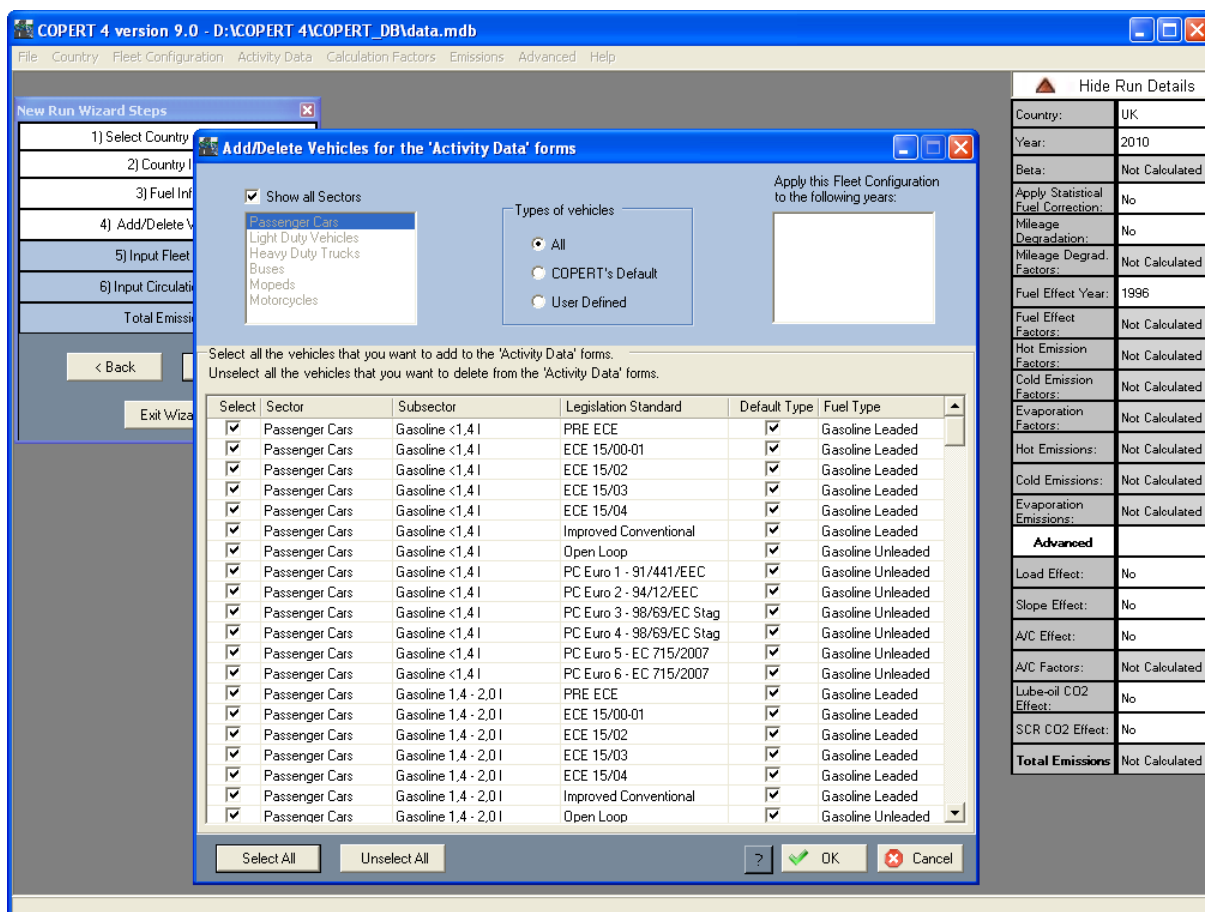

Figure 4 - Wizard: Add/Delete Vehicles Screen
- Click 'Next >' and the 'Add/Delete Vehicles' screen will appear (Figure 4).